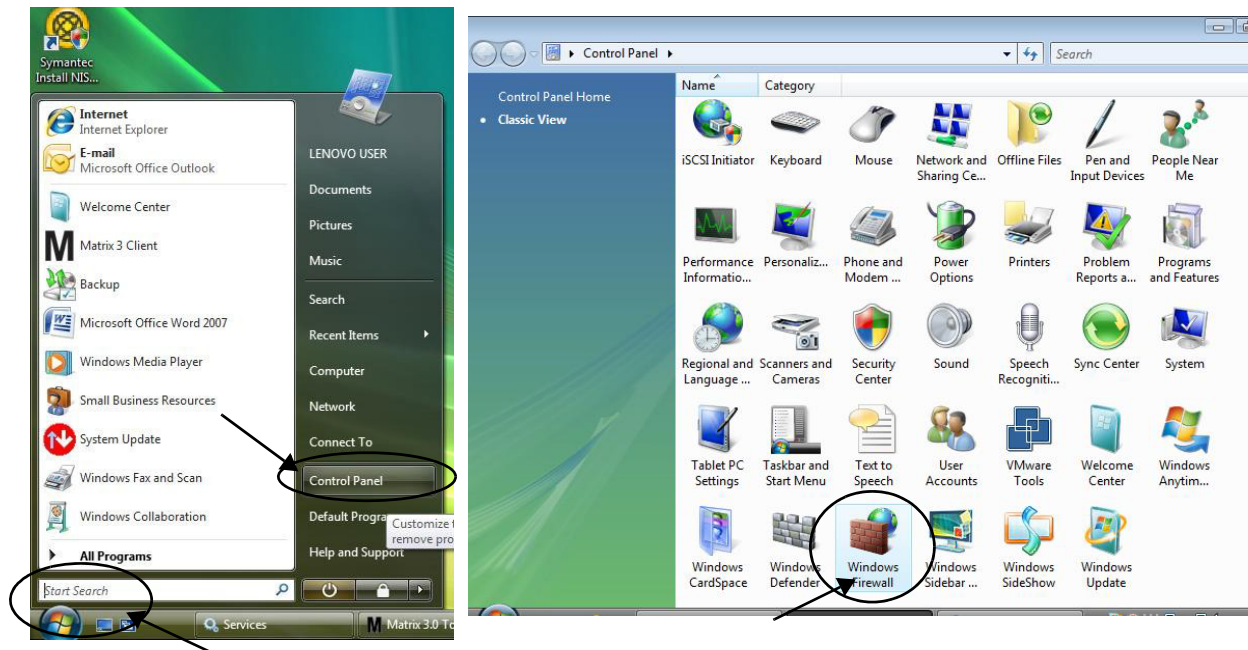

FIG. 26
1. Click on Start/Control Pane. Then select Windows Firewall (FIG. 26).